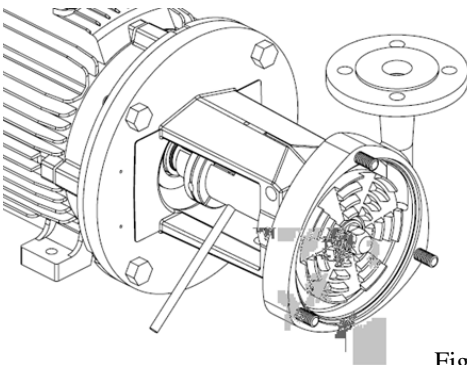

Figure 22
5. Now that the impeller clearance is set the clearance shim has to be removed and pump reassembled. Insert a 3/8" bar into the hole of the stub shaft and loosen the impeller nut. See Figure 22.